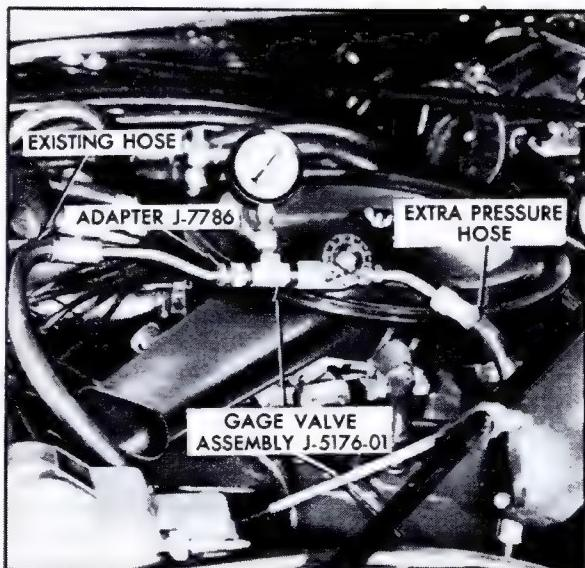

Fig. 9-7 Checking Pump Pressure
- Connect pressure hose to Adapter, J-7786, on Gage Valve Assembly, J-5176-01, Fig. 9-7.